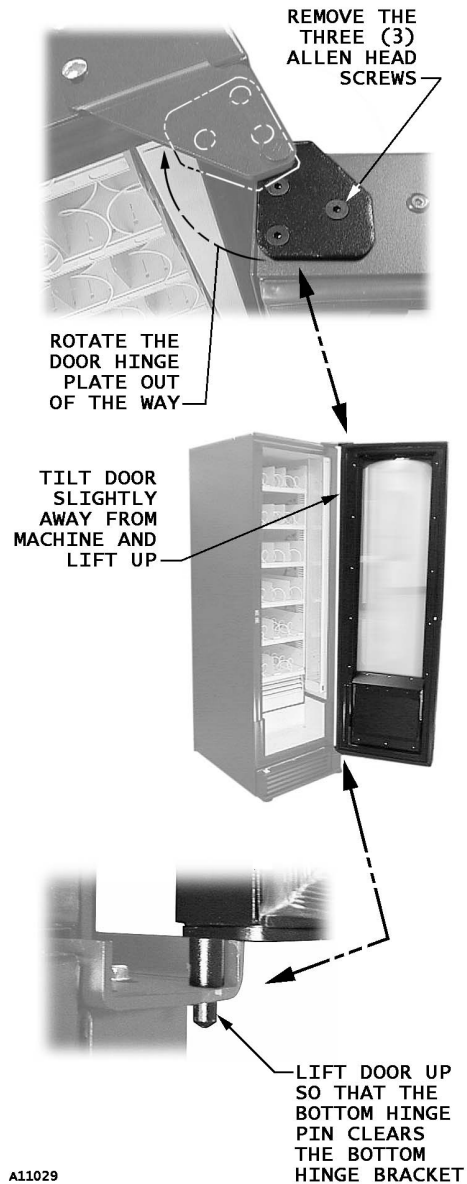

Figure 8.1. Removing the door
1. Open the door until you can see all three (3) Allen Head Screws of the Top Hinge Door Plate (as viewed from the top of the machine). See **Figure 8.1**.
2. One person should hold on to the door to prevent it from tipping while another person removes all three (3) Allen Head screws from the Top Hinge Door Plate.